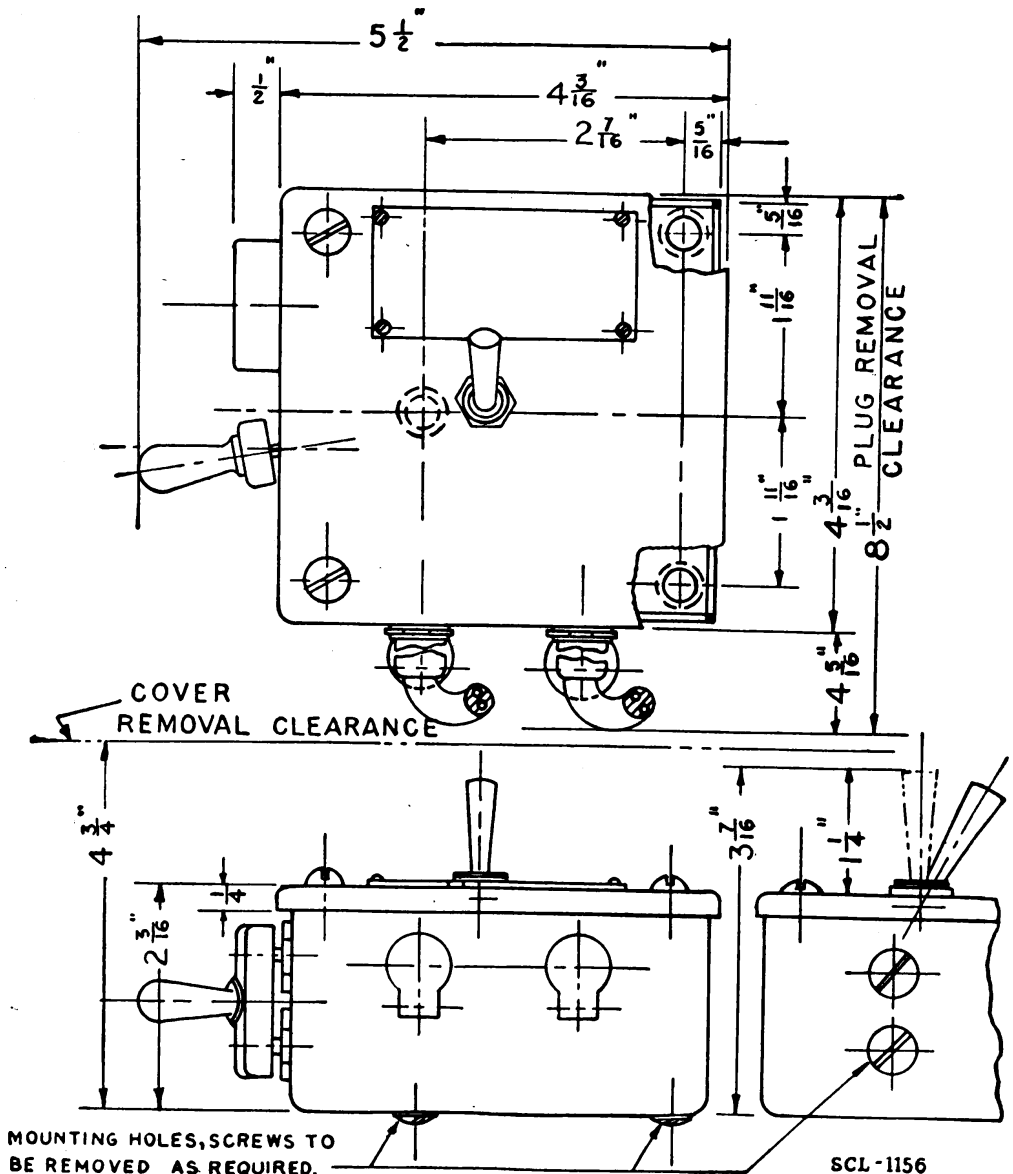

FIGURE 2.—Control box BC-368.
b. *Control box BC-368* (fig. 2).—Two control boxes BC-368 are used in this installation, one for the tank commander and one for the radio operator. Control box BC-368 consists of a sheet steel box approximately 4 inches long by 4 inches wide by 2 inches deep, with a cover. In it are mounted—one 10,000-ohm, wire-wound potentiometer for volume control; one INTERPHONE-RADIO transfer switch consisting of two double-pole, double-throw toggle switches operated together by a common switch handle; one double-pole,